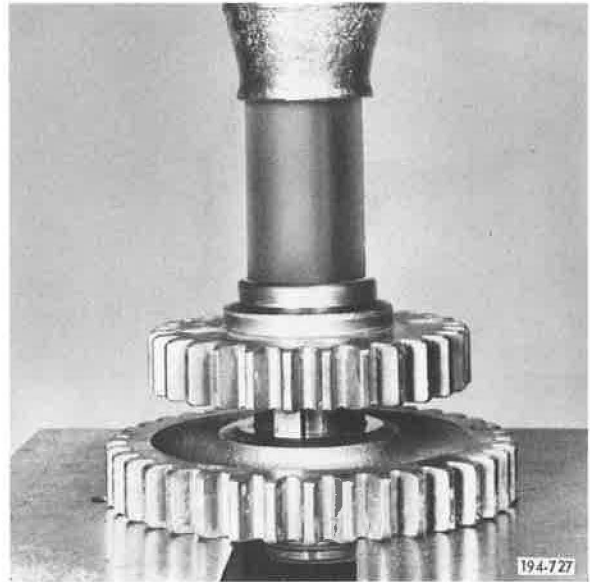

Figure 301. Pressing Shaft Through Gear
4. Oil shaft again, align key with keyway, and press shaft into Direct gear. Refer to previous NOTES and WARNING. See Figure 301.